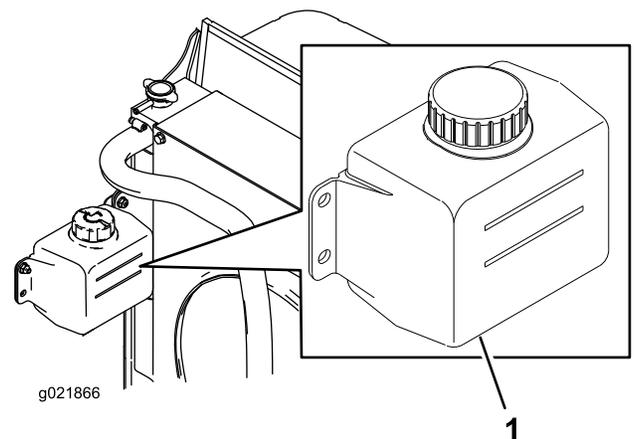

Figure 28
1. Check the level of coolant in the expansion tank (Figure 28).